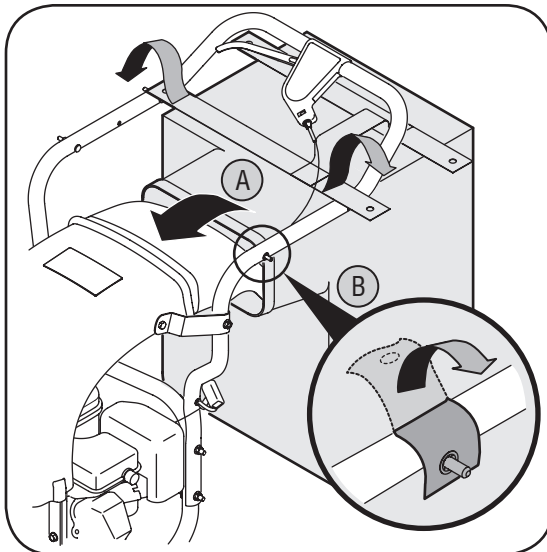

Figure 3-6
6. a. Place bag under the upper handle assembly and slip the front opening on the bag over the discharge chute, making certain it is over the rim on the discharge chute. Follow direction of the arrows in Figure 3-6.
- b. Place the four straps on top of the bag over the upper handle, hooking them on the studs to secure in place. See Figure 3-6.